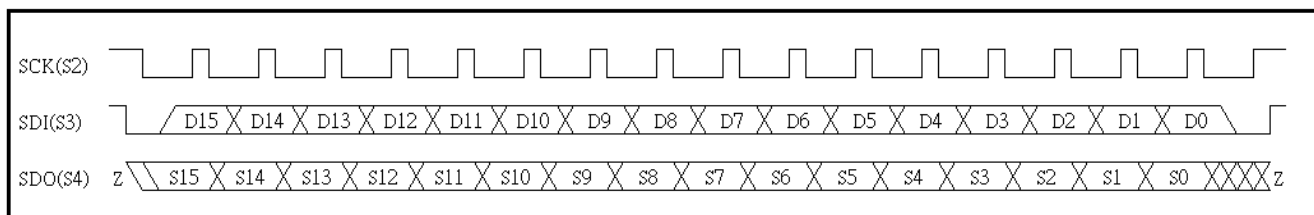

Fig. 21 I2C Data Output Command timing
a. Command timing reference Fig. 21 I2C Data Output Command timing.